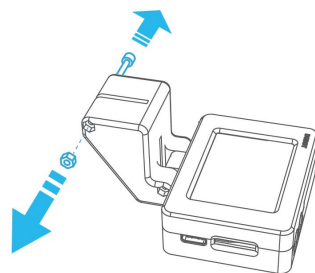

Figure 3.6 Loosen the screws
**Step 1** Loosen the screws of the AI camera using 1.5mm socket head wrench, as shown in Figure 3.6.